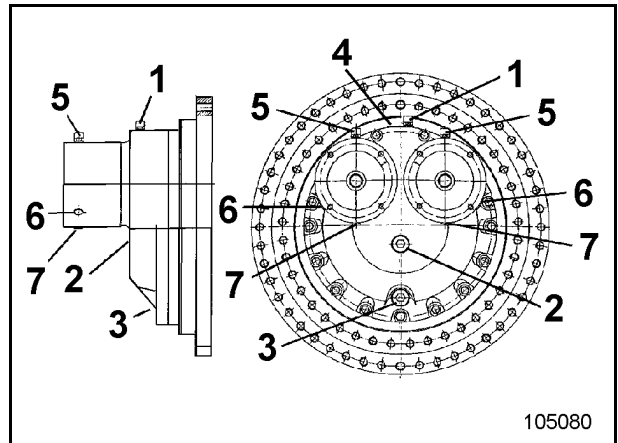

Fig. 3-84:
- Unscrew control plug (2, Fig. 3-84:). The oil level should reach up to the lower end of the opening. Top up with oil through the opening if required.
- Screw in plug (2) back in place.
- Unscrew checking screw (6, Fig. 3-84:). The oil level should reach up to the lower edge of the opening. Top up with oil, if required.
- Screw checking plug (6) back in place.